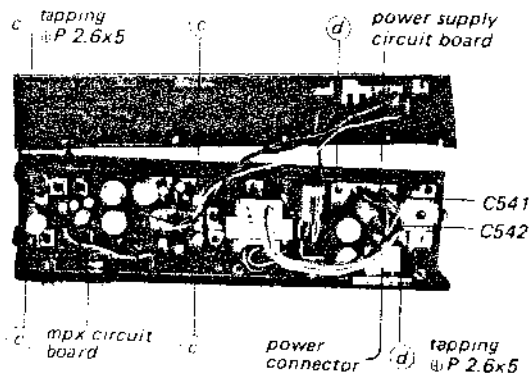

Fig. 5 Circuit board removal
- 2-1. Remove the four screws marked (c) in Fig. 5.
- 3-1. Remove the two screws marked (d) in Fig. 5.
- 3-2. Unsolder the two-capacitors leads (C541 and C542) at the power connector shown in Fig. 5.